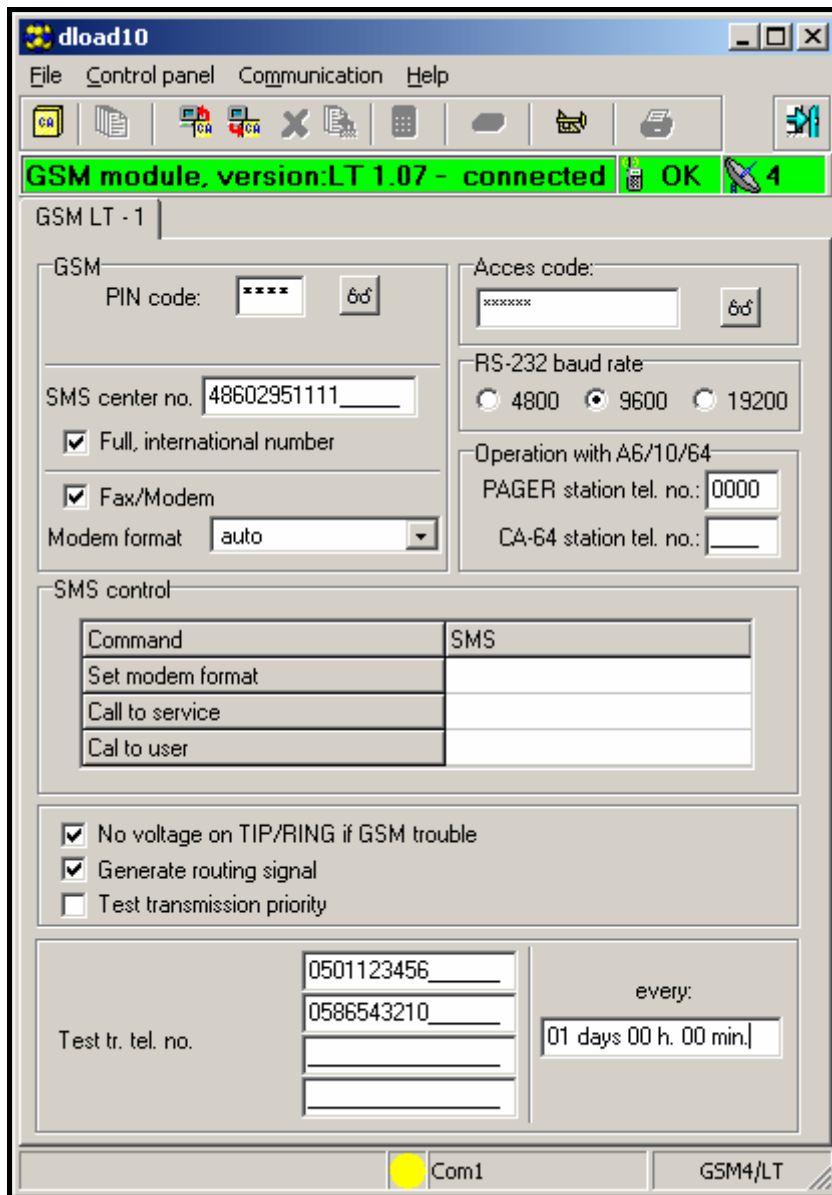

Figure 10.
4. Program the module. Figure 10 shows the window for programming the module settings. The parameter values in the drawing represent their factory settings. The PIN code is not programmed by default. Particular parameters are described in Section „Module Programming”. The line in the upper part of the window shows the current status of the module as well as the antenna signal level.